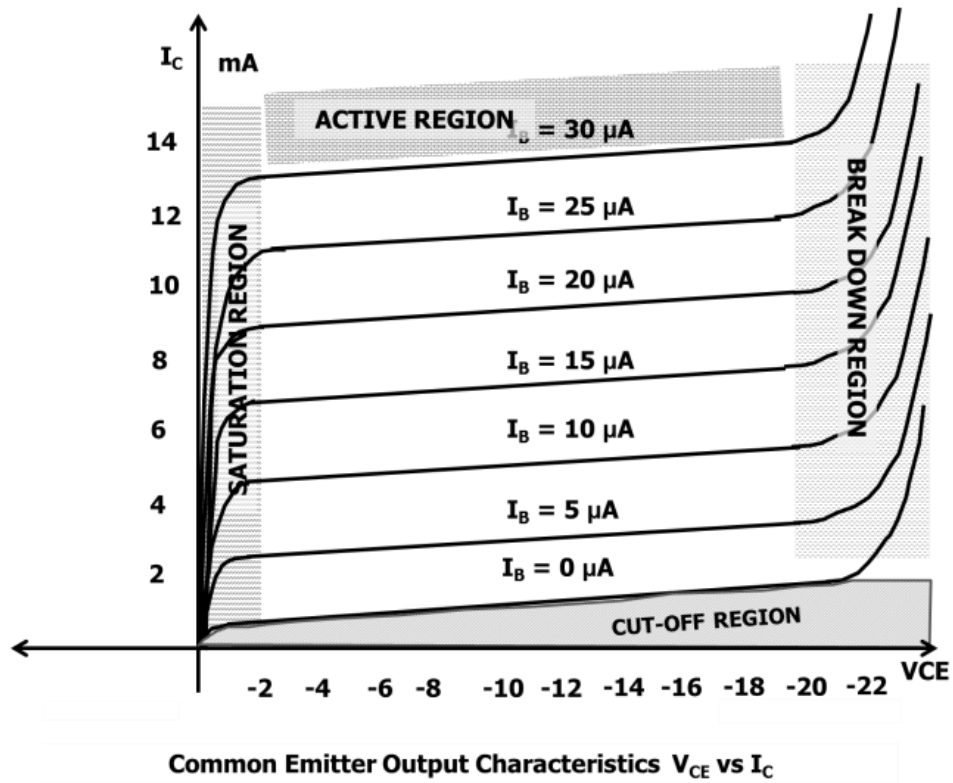

Fig 3.22
3.7.2 Common collector Output characteristics: Refer fig 3.22 .It is very much similar to Common emitter output characteristics in all respects